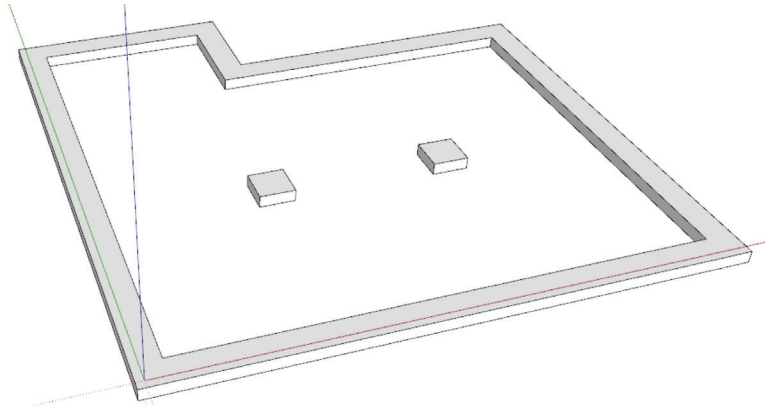

Figure 10.25 3D Footings.
22. You should now see a 3D model of your footings for the project. Next, group these footings as discussed prior—always group your objects to protect them and prevent them from “sticking” to other geometry later. Did I say *always*? Triple-click on the continuous footings to select all faces and edges, right-click, and make a group. Repeat this step for both pier footings. You should now have three groups—your footings as shown in Figure 10.25.